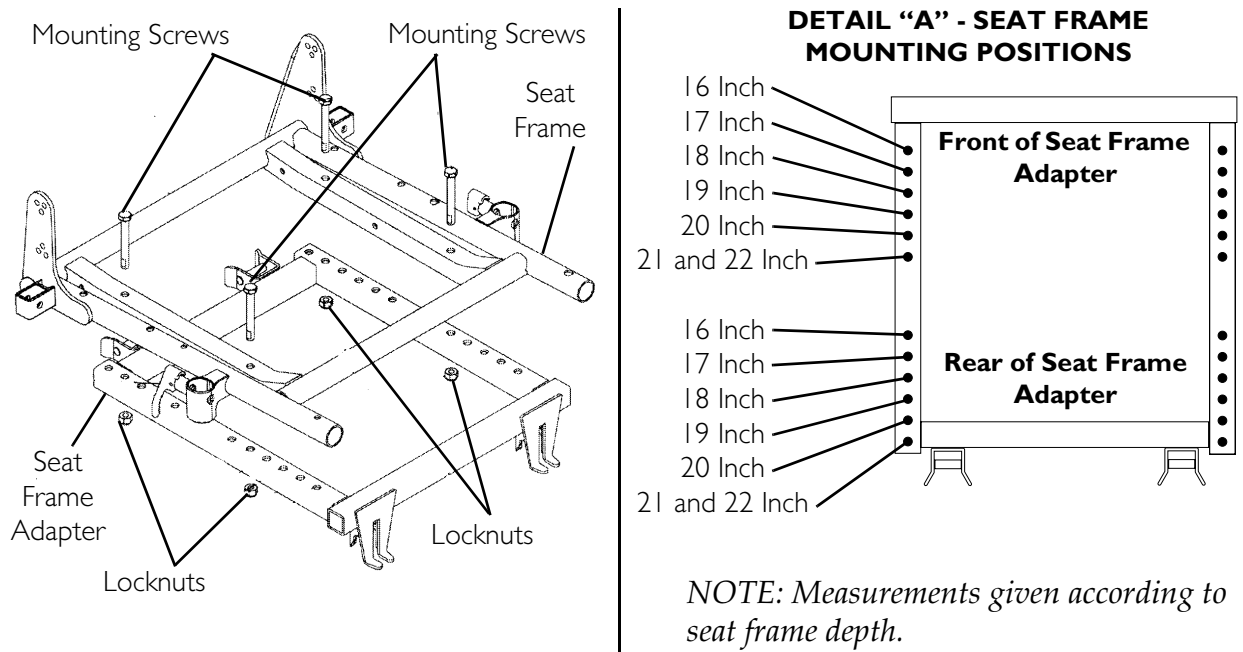

FIGURE 4.13 Replacing the Seat Frame
NOTE: For this procedure, refer to FIGURE 4.13.
7. Align the four mounting holes of the new seat frame with the correct mounting position on the seat frame adapter (DETAIL "A" of FIGURE 4.13).